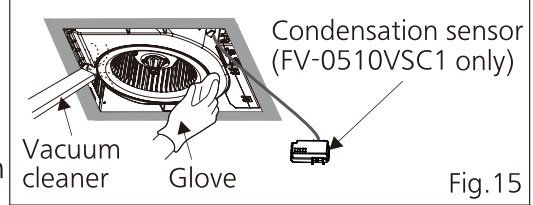

Fig.15
3.Remove dust and dirt from fan body using a vacuum cleaner. (Fig.15)
4.Using a cloth dampened with kitchen detergent remove any dirt from fan body. Wipe dry with clean cloth. (Fig.15)